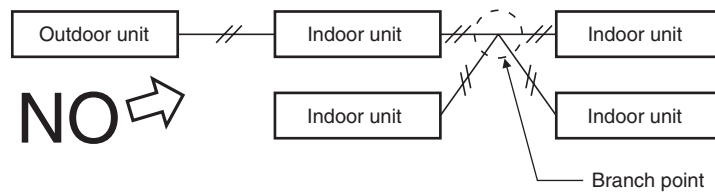

Fig. 4-5
- (3) Do not install inter-unit control wiring such as star branch wiring. Star branch wiring causes mis-address setting. (Fig. 4-5)